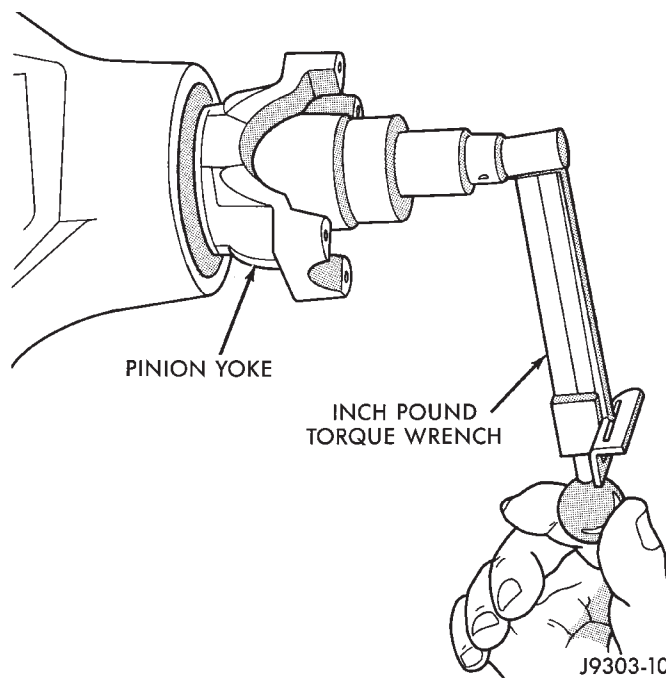

Fig. 35 Check Pinion Gear Rotating Torque
(15) Slowly tighten the nut in 6.8 N·m (5 ft. lbs.) increments until the rotating torque is achieved. Measure the rotating torque frequently to avoid over crushing the collapsible spacer (Fig. 35).
(16) Check bearing rotating torque with an inch pound torque wrench (Fig. 35). The torque necessary to rotate the pinion gear should be:
- (17) Install differential in housing.